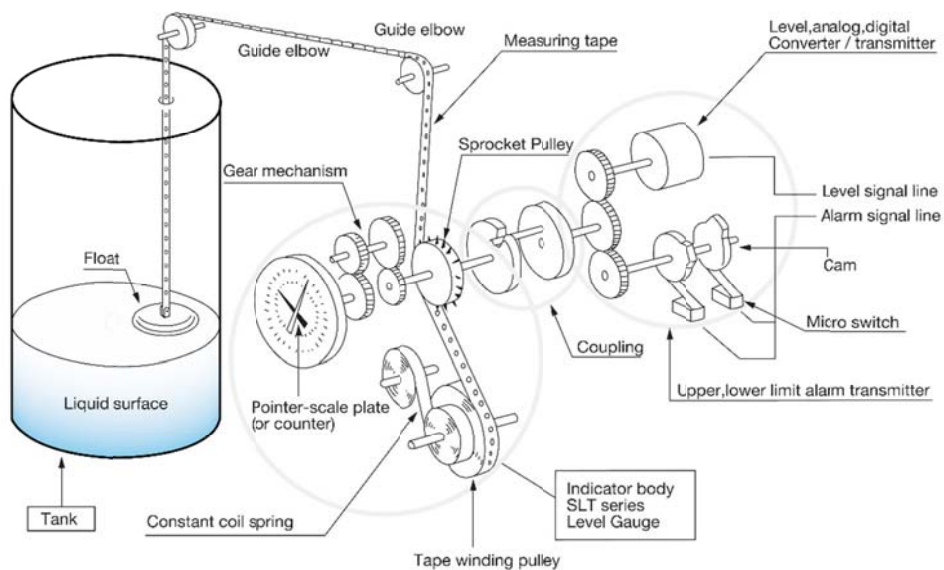

Fig. 1
- Before starting a work for installation, you shall prepare or arrange each component as shown figure 1.
- Shall position the center axis of angle elbow ① to be in accordance with the axis of guide pipe of indicator body and also the axis of angle elbow is ② on the center of float.
- Before mounting remove transmitter cover. Turn drive shaft (6. Fig. 1) until both worm wheel screws are accessible.